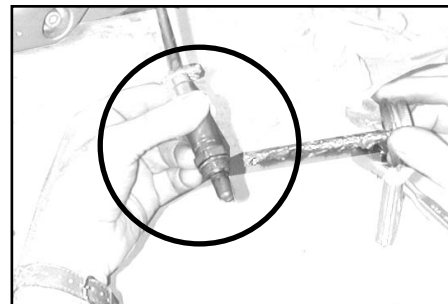

Figure 12
7. Apply anti seize compound on the threads of the Lambda Sensor. Figure 12.